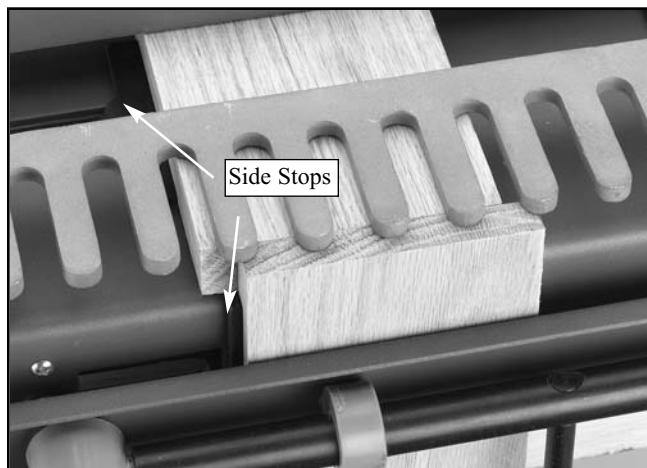

Figure 10. Jig side stops correctly set up.
10. Your jig set up should look like **Figure 10**.